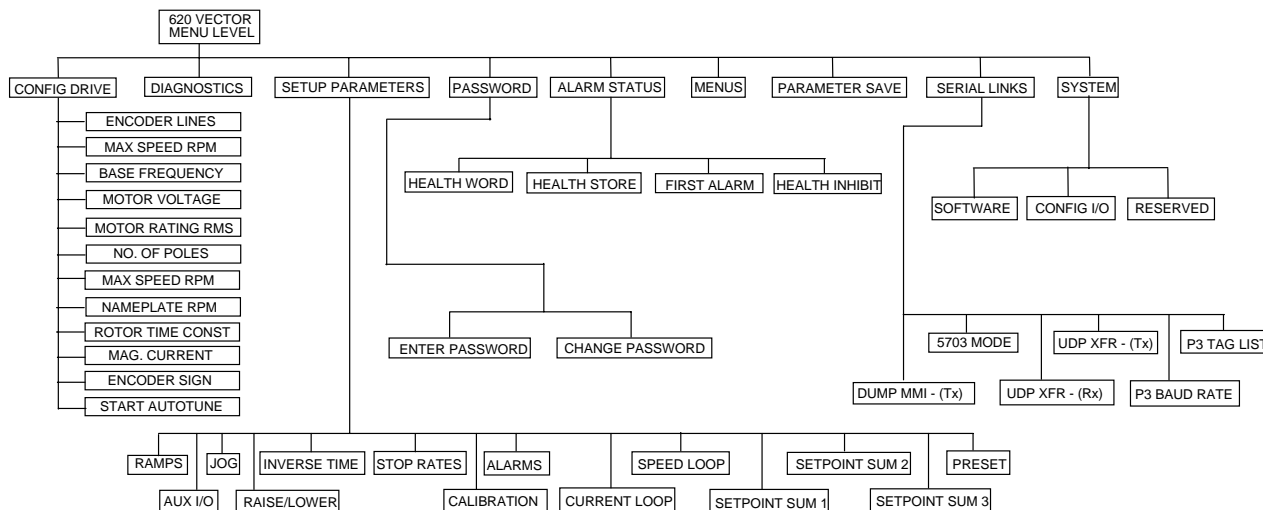

Figure 4.3 - Main Menu Options
The MMI comprises several hundred menu options (shown in Figure 4.3). The    and  buttons navigate through the menus.
The options available to the user from the main menu are given in Figure 4.3. These options are briefly described in the following paragraphs which include references for further details.
1. Press **M** **M**. The display will show 'MENU LEVEL / DIAGNOSTICS'. Pressing the **Δ** and **∇** buttons will enable you to move around the top level menu. Press **Δ** until the display shows **CONFIGURE DRIVE** (if you miss **CONFIGURE DRIVE** or any other menu item, either use the **∇** button to get back or keep pressing **Δ** until **CONFIGURE DRIVE** is displayed again). You will be navigating the Initial Setup menus shown at the extreme left of Fig 4.3.